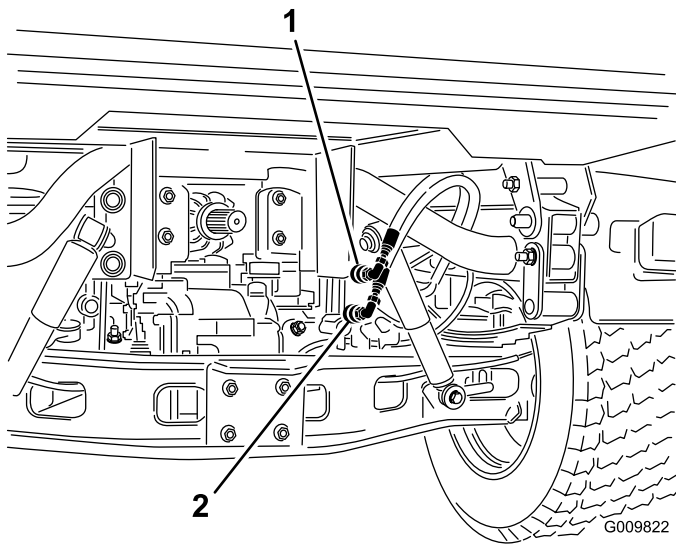

Figure 79
2. On both vehicles, disconnect the two quick coupler hoses from the hoses secured to the coupler bracket (Figure 79).